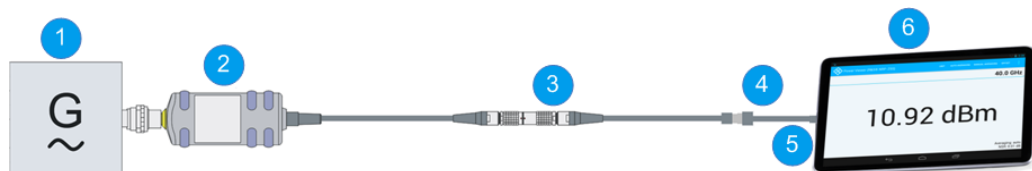

Figure 6-2: Setup with an Android device
1. Connect the cables as shown in Figure 6-2: